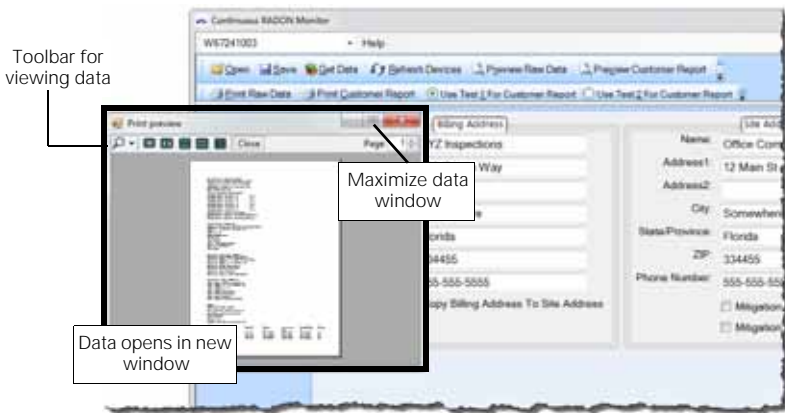

Figure 20. Previewing Raw Data
- 2 Click **Preview Raw Data**. A new window opens and displays the raw test data. The viewer’s toolbar offers options for viewing the data (Figure 20).